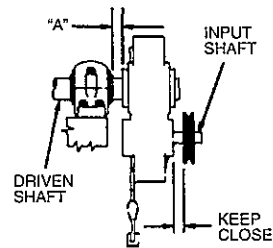

Fig. 2
The driven shaft must extend through the full length of the reducer. The reducer should be mounted the recommended minimum distance from the shaft bearing (shown as dimension "A" in Figure 2 and table below).
4. Install sheave on input shaft as close to reducer as practical (see Fig. 2).
6. Install TORQUE-ARM and adapter plates using the long reducer bolts. The bolts may be shifted to any of the holes on the input end of the reducer. On TXTM605 install the adapter plate on the opposite side from the input shaft (see Figure 2).